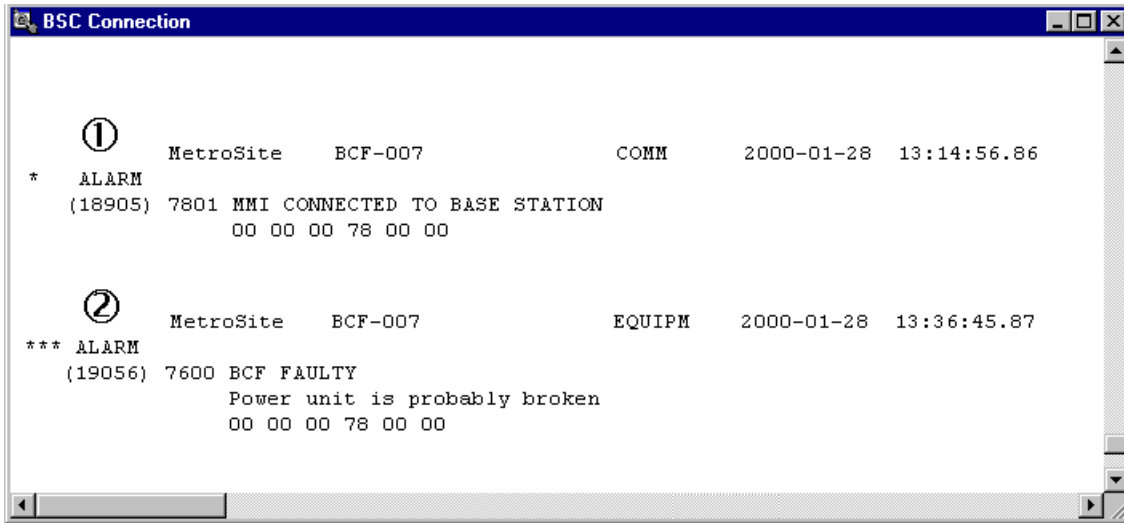
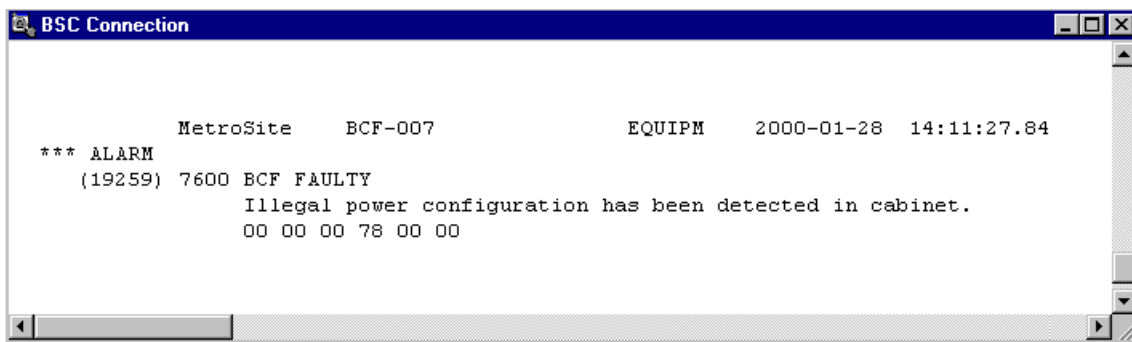

Figure 1. Example 1, active alarms as seen at the BSC
Figure 2. Example 2, active alarm as seen at the BSC
- Figure 1. Example 1, active alarms as seen at the BSC 12
- Figure 2. Example 2, active alarm as seen at the BSC 12
Nokia MetroSite EDGE Base Station alarms issued at the BSC or NMS/2000 have a four-digit alarm number and an alarm name, together with the optional fault reason (refer to Figures 1 and 2). For information on the other fields shown in Figures 1 and 2, refer to BSC documentation.
The text below the alarm name describes the fault that has caused the alarm. For example, in alarm [2] in Figure 1, the power supply unit is probably broken.
In alarm [2] in Figure 1 the fault is different but the alarm number is the same as in Figure 2. The effect on the operation of a base station is the same, which is why they have the same alarm number and name.